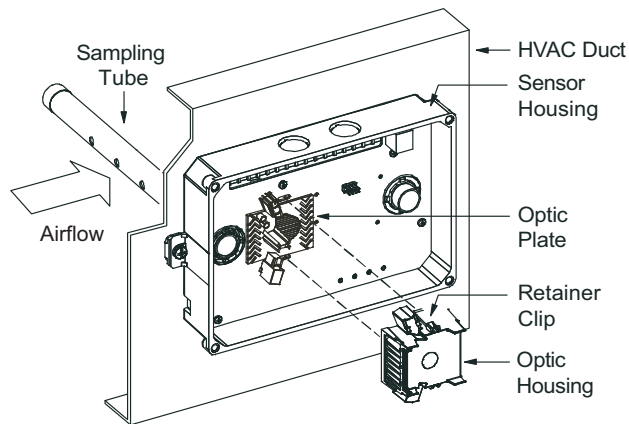

Fig. 52 — Sensor Cleaning Diagram
1. Disconnect power from the duct detector then remove the sensor's cover. See Fig. 52.